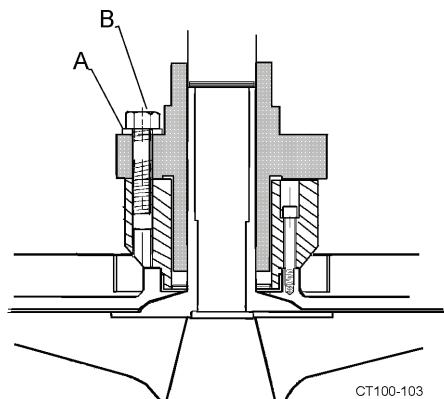

Figure 54 - Removal of Wet End
3. Remove the impeller retainer nut and o-ring; then loosen the seal set screws. (Figure 54, item A).